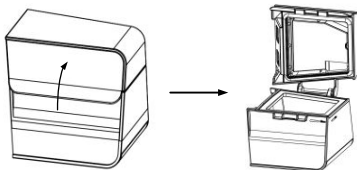
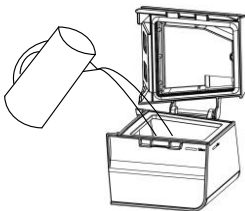

Fig. 14-2
Fig. 14-3
(1) Open the cap, as shown in Fig. 14-2, and fill the water chamber with approximately 360 mL of water, as shown in Fig. 14-3. Make sure that the water does not exceed the maximum water level line.